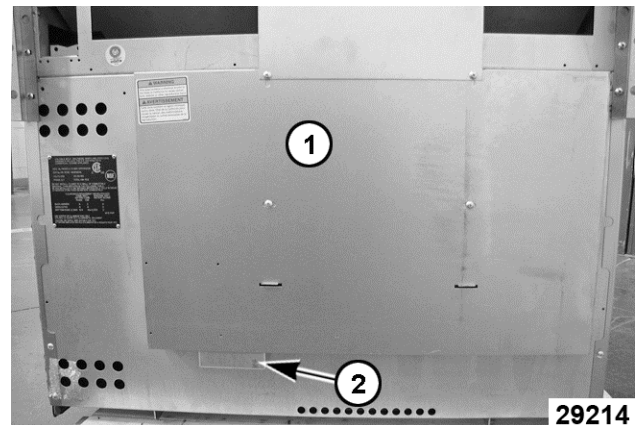

Fig. 17
1. Remove the rear flue panel (1, Fig. 17).
2. Remove element cover (2, Fig. 17).